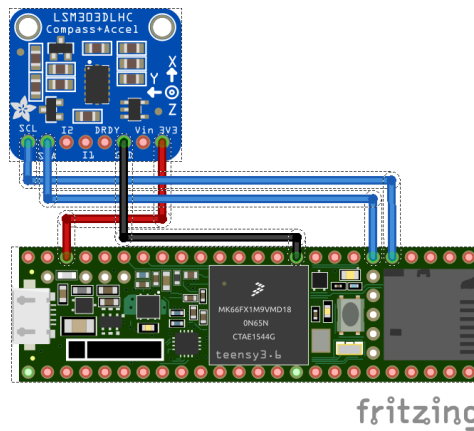

Figure 4.3: Connecting Teensy to LSM303
LSM303DLH(C) uses 3.3V voltage so you can connect Teensy's 3.3V & GND pins to CC1101's VCC & GND. In addition SDA & SCL must be connected as per your BoardConfig.h definitions. Note that DRDY, I1 & I2 don't need to be connected. Figure 4.3 shows how to connect LSM303DLH(C) with the default configuration.